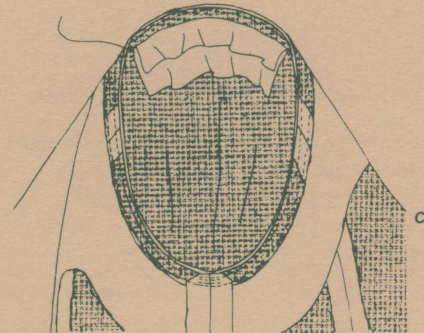

Figure 22c.
- Turn all layers into the sleeve cap (Figure 22c).